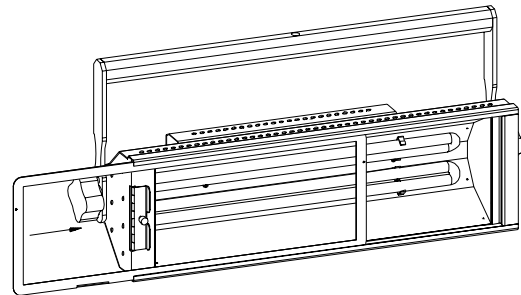

Figure 9
2. Insert accessory into the track and slide it forward until it stops (Fig. 9).